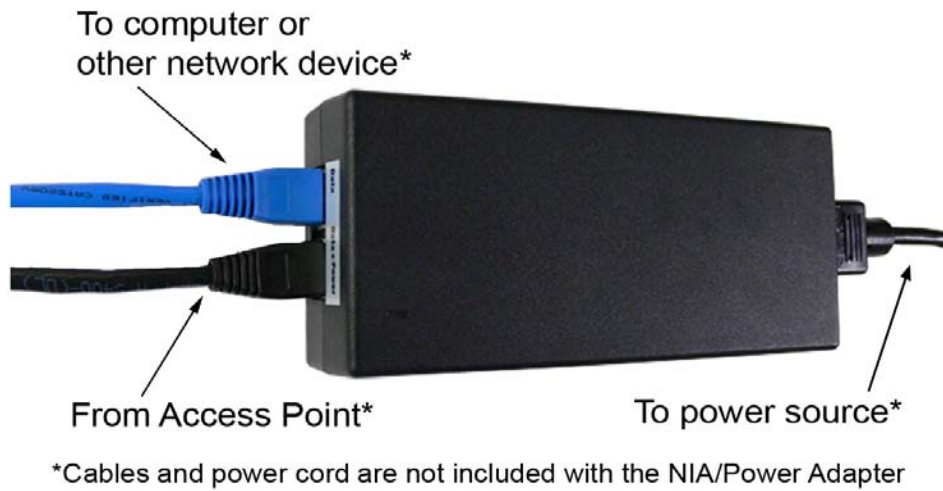

Figure 3-22: NIA setup is complete
- 5) The completed setup is shown in Figure 3-22:. After verifying all connections to the NIA, connect the power cord to the wall and complete the process of setting up of the Access Point.